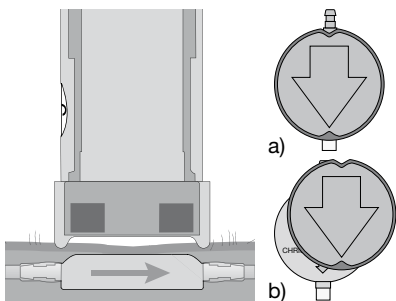

Fig. 15: Measuring the pressure setting a) correctly, b) incorrectly
2. The proGAV VERIFICATION TOOL is positioned centrally on the valve. The marking on the instrument has to point towards the proximal catheter (leading to the ventricle). The button is pushed and the pressure setting is read (fig. 15).